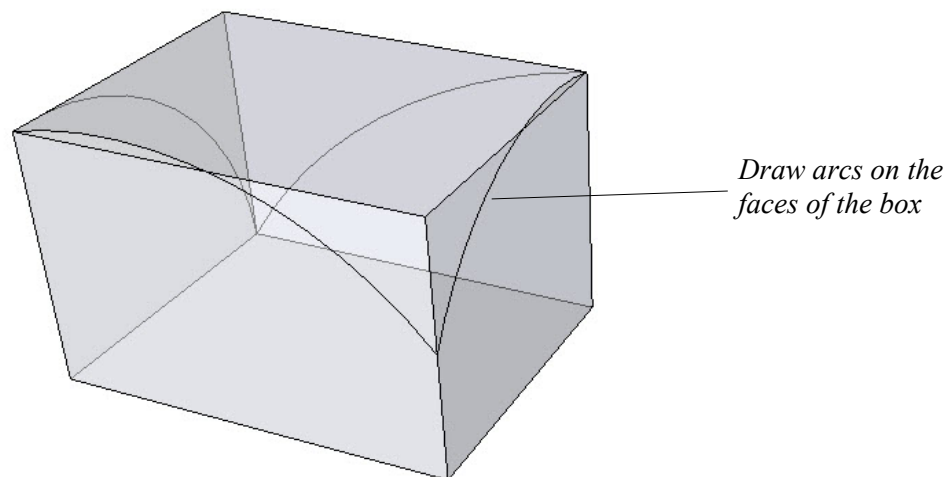

Figure 104. The 4 arcs drawn on the faces of the box
- Use WINDOW/Styles to activate the X-Ray style if necessary and draw 4 arcs as shown in Figure 104.